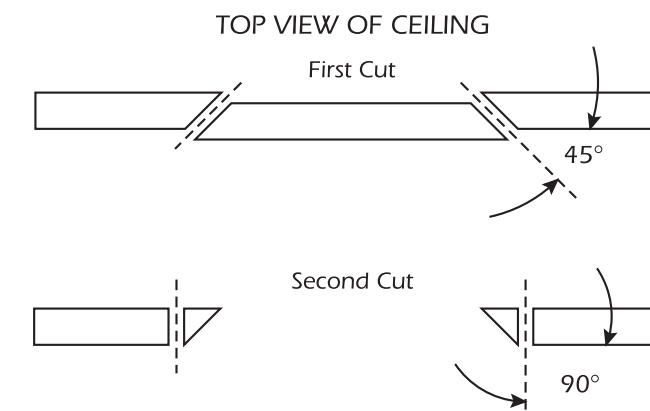

Figure 3
**CAUTION:** This is the most important part of the entire installation. If you are not certain whether or not an obstruction exists behind the desired mounting area, you should start by cutting a small hole in the center of your penciled mounting hole with a drywall saw. Cut at a 45° angle towards the inside of the hole (See Figure 3). Cutting the small hole at this angle will make drywall repair much easier as the piece cut out can be installed neatly back into the hole. Once you have determined there are no obstructions in your desired mounting location, start cutting the finished hole at a 90° angle to the ceiling surface.